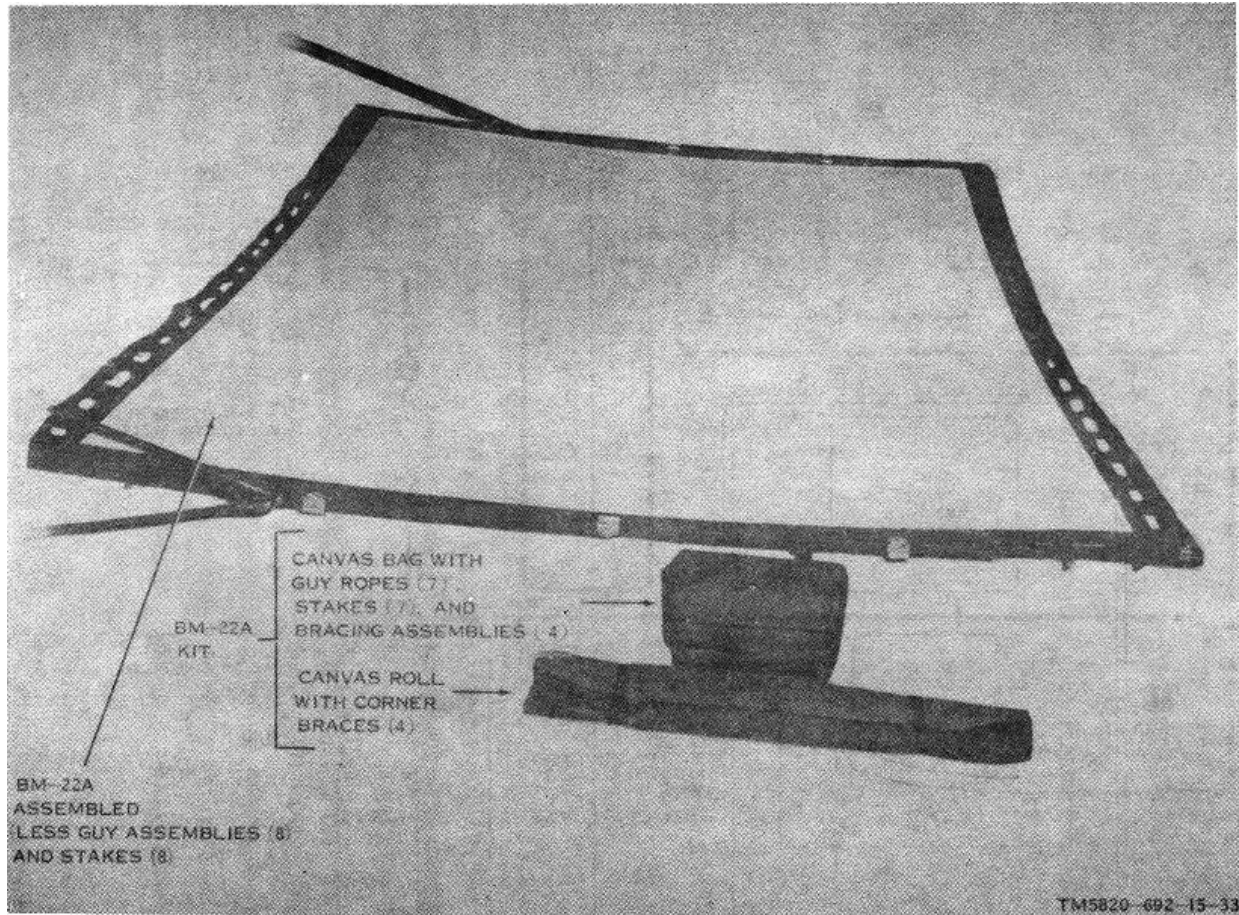

Figure 3-9. Screen, Projection BM-22A and BM-22A kit.
a. *General.* The BM-22A parts are contained in two large screen cases stowed on the shelves in the shelter (figs. 1-4 and 1-7). The BM-22A (fig. 3-9) includes a luminescent projection screen, a framework, two leg assemblies, four long guy ropes (27 ft), four short guy ropes (10 ft), and eight stakes. To strengthen the BM-22A, a kit is provided. The BM-22A kit (fig. 3-9)